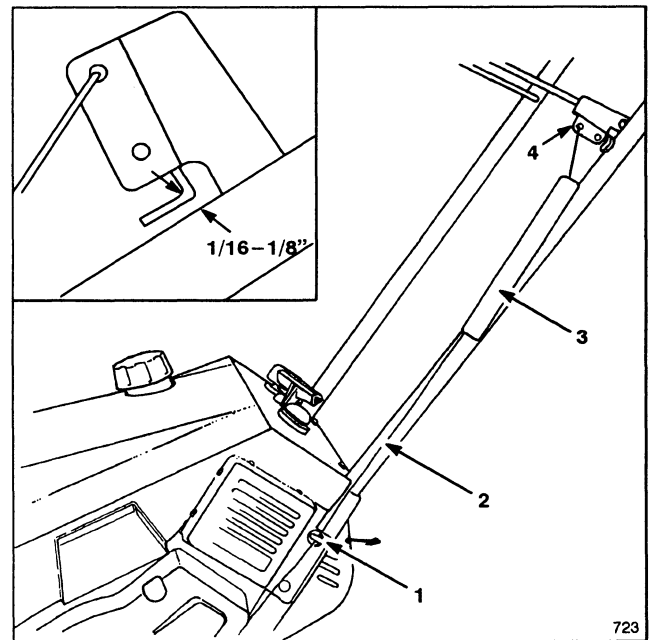

Figure 5
3. Secure right side of handle with (2) machine screws. Secure left side of handle with (1) machine screw, (1) eyebolt, and a spacer. Use the eyebolt to mount upper left side of handle. Insert the eyebolt through the spacer before using it to secure handle to the snowthrower frame. The eyebolt must be positioned perpendicular to handle when tightened.
5. Hook spring into top hole of control bar bracket (Fig. 5).
6. Move control bar back toward handle until slack in cable is removed. The gap between the control bar bracket and handle should be approximately $1/16'' - 1/8''$. See insert, Figure 5. If an adjustment is required, refer to Adjusting Control Bar, page 8.